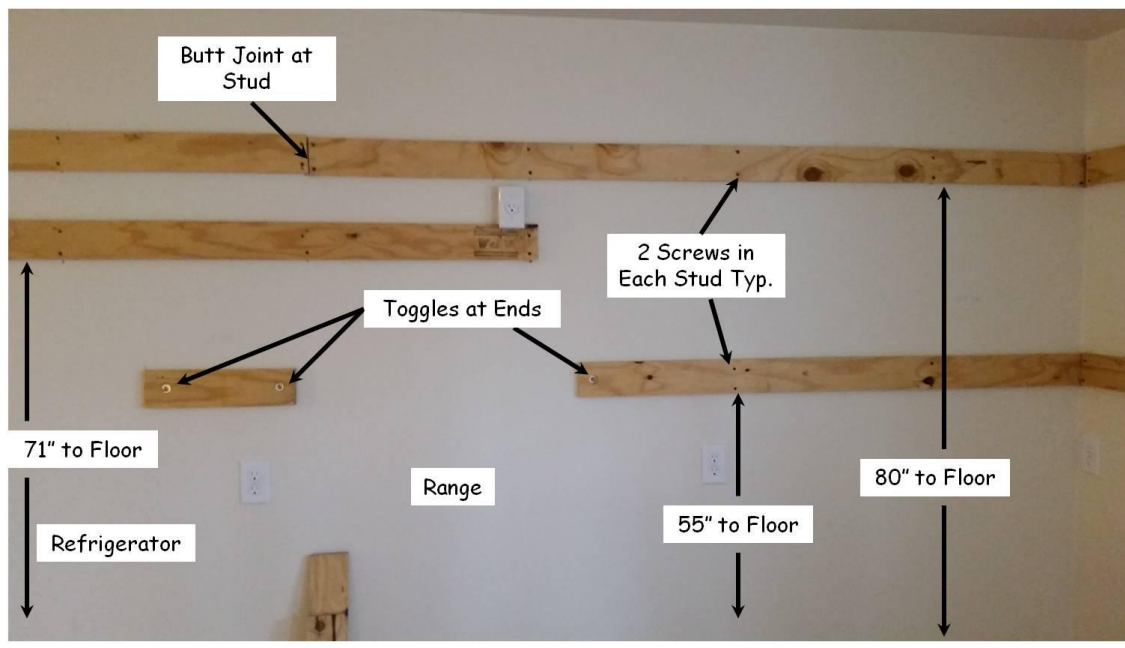

Figure 17-1. Kitchen Cabinet Support Strips.
4. The upper kitchen cabinets will be installed by mounting them to 2-7/8" wide strips of $\frac{3}{4}$ " thick plywood. This installation method is used because the screws holding up the cabinets go into the continuous plywood, rather than having to precisely locate the cabinet screws to hit a stud while holding them in place. The cabinets are 30" tall, with the top of the cabinet 84" and the bottom 54" from the floor. The top plywood support strip will be located about 1" down from the top, and the bottom of the lower strip about 1" up from the bottom of the cabinets. The following steps refer to Figure 17-1.